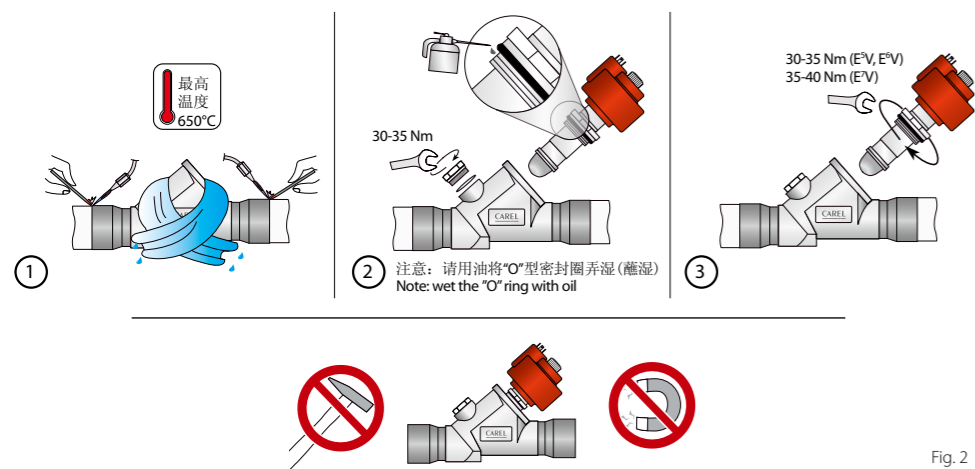

Fig. 2
Le valvole E5V, E6V, E7V devono essere saldate al circuito mediante brasatura dei raccordi in rame ai tubi di uscita condensatore (IN) e di ingresso evaporatore (OUT). Seguire la successione indicata in Fig. 2 procedendo in questo modo:
The E5V, E6V, E7V valves must be joined to the circuit by braze welding the copper fittings to the condenser outlet (IN) and evaporator inlet pipes (OUT). Proceed as indicated in Fig. 2.
6. Make sure that the red stator is fully inserted on the cartridge with the black nut screwed on tightly until deforming the rubber ring on the stator (tightening torque 0.8 Nm). (Fig. 2 D);